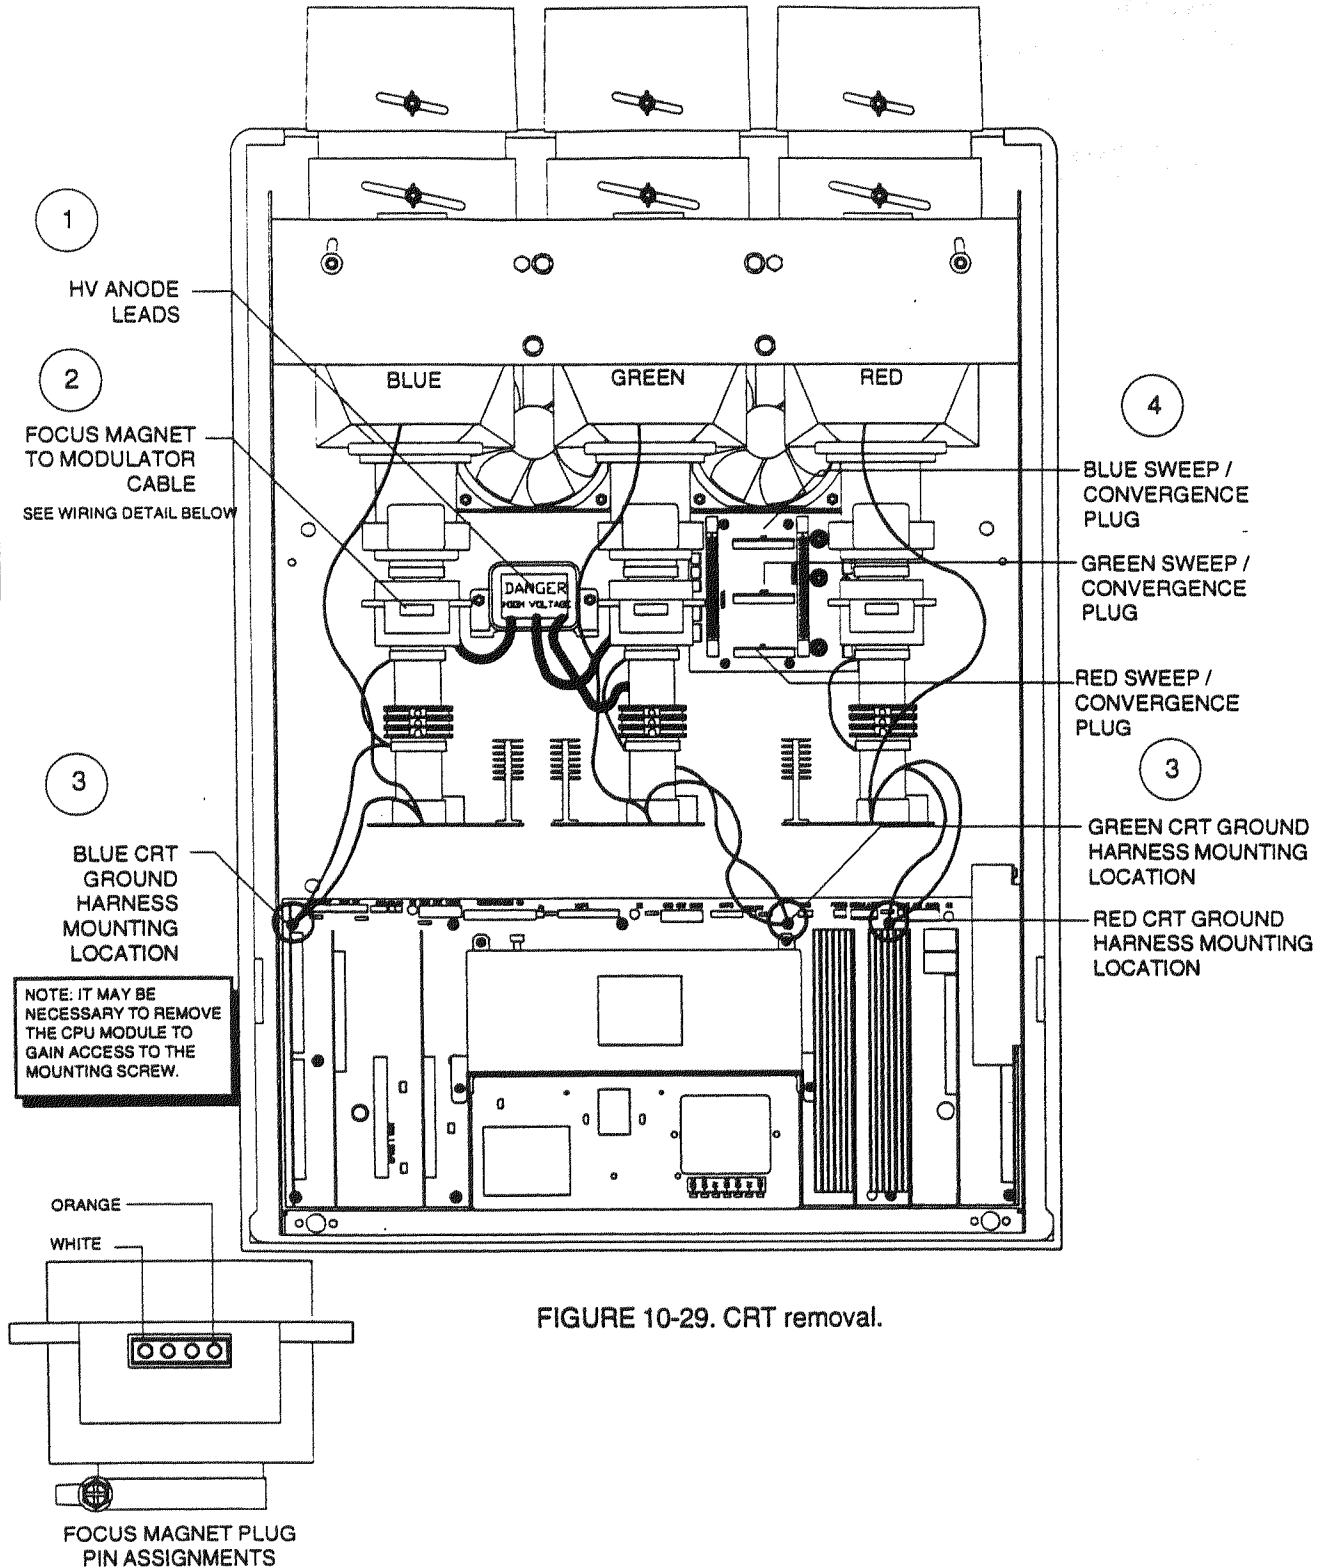

FIGURE 10-29. CRT removal.
- STEP 4. On the defective CRT disconnect the following; ① High Voltage anode lead, ② Focus magnet cable connector, ③ ground harness from the mother board location and ④ the respective sweep/convergence plug from the yoke interface board. See Figure 10-29.